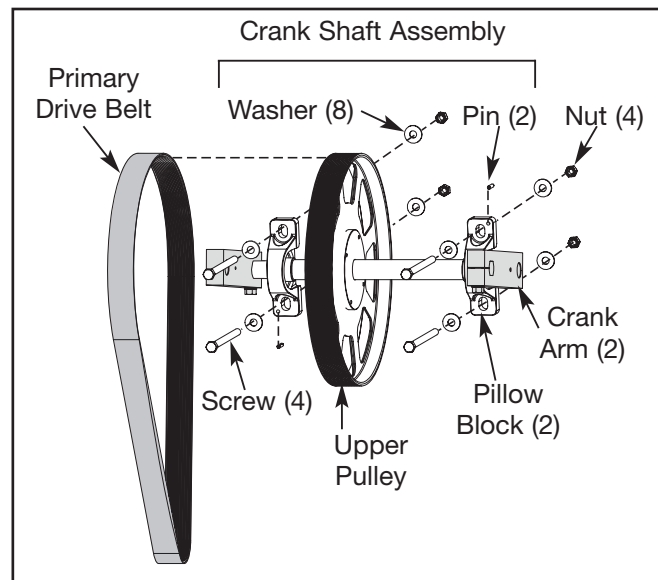

Figure 13
- B. Remove the crank shaft assembly along with the primary belt, pillow blocks and crank arms out of the unit. **NOTE:** You may need to wiggle the assembly out. There is a pin in each pillow block. Be sure not to lose them. See Figure 13.
- A. Slide the primary drive belt off the upper pulley and discard it. See Figure 13.
- A. Slide the new primary drive belt on the upper pulley. See Figure 13.